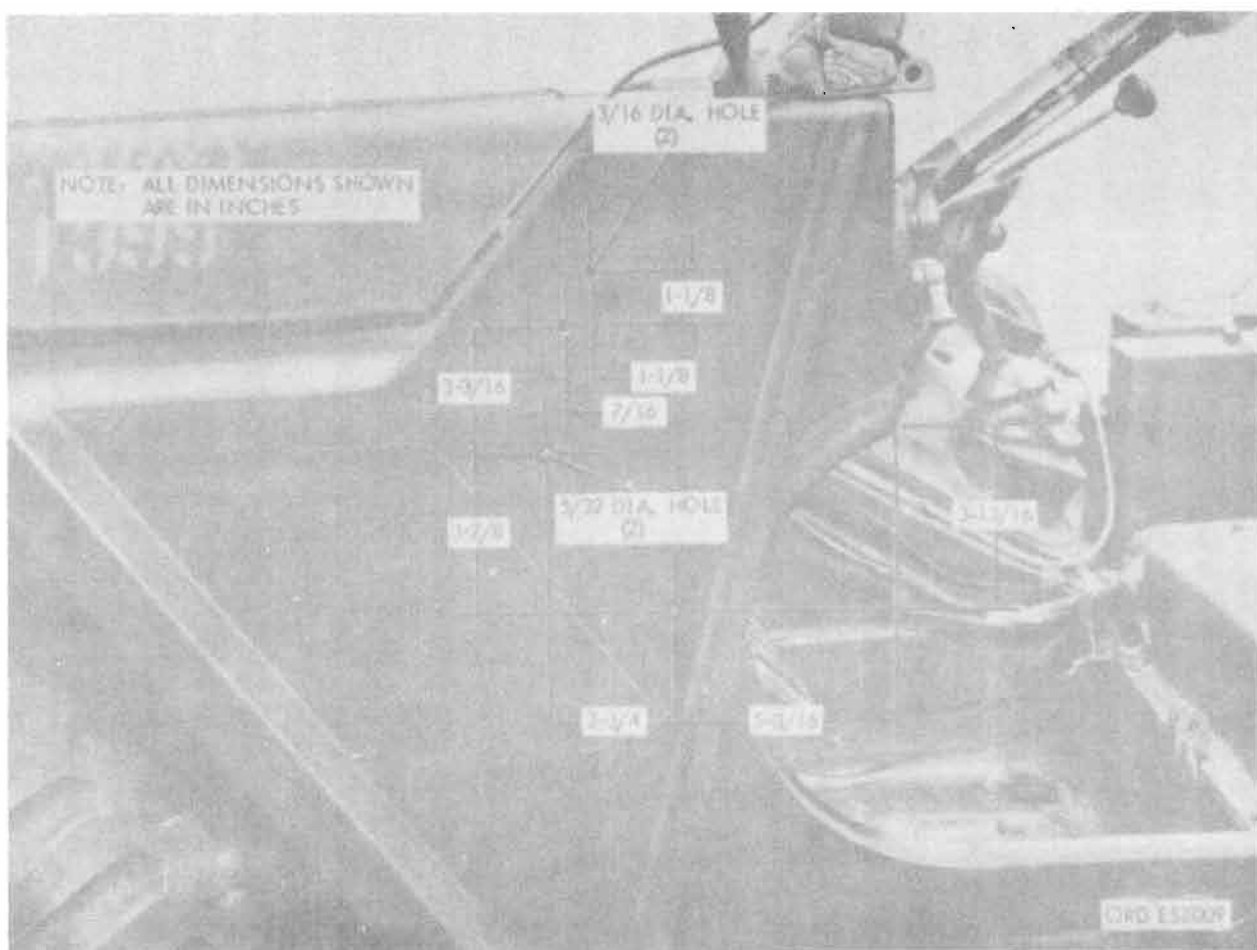

Figure 18-67. Left body side panel drilling.
- g. Locate and drill two 5/32-inch diameter holes for resistor mounting, and two 3/16-inch holes in left body side panel for circuit breaker mounting (fig. 18-67).